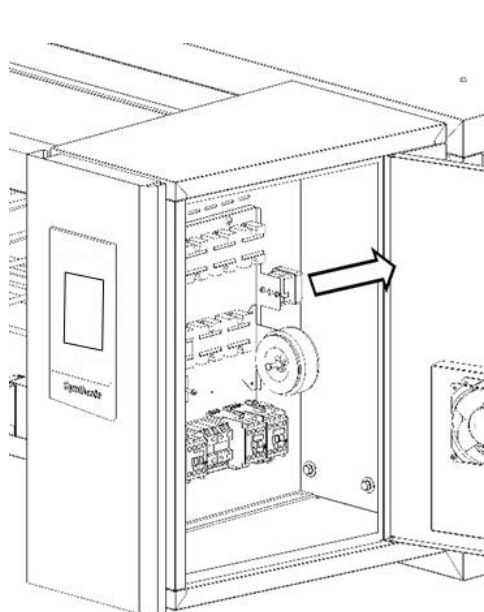

Fig.14A
- 3.Disconnect the electrical connection of the thermostat and unscrew the support. (Fig.14A).